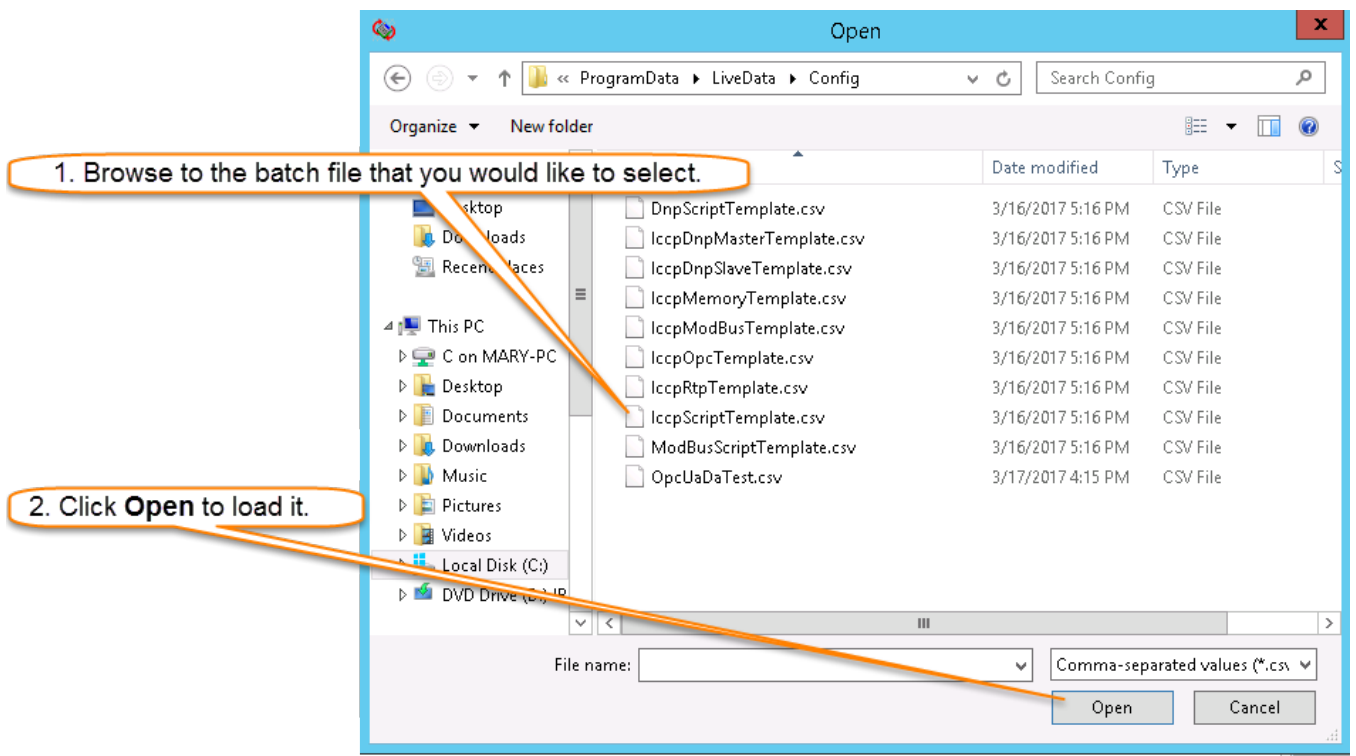

Figure 7: Select and Open the Batch File
2. Browse to the batch file that you would like to select, then click the **Open** button as shown in Figure 7.